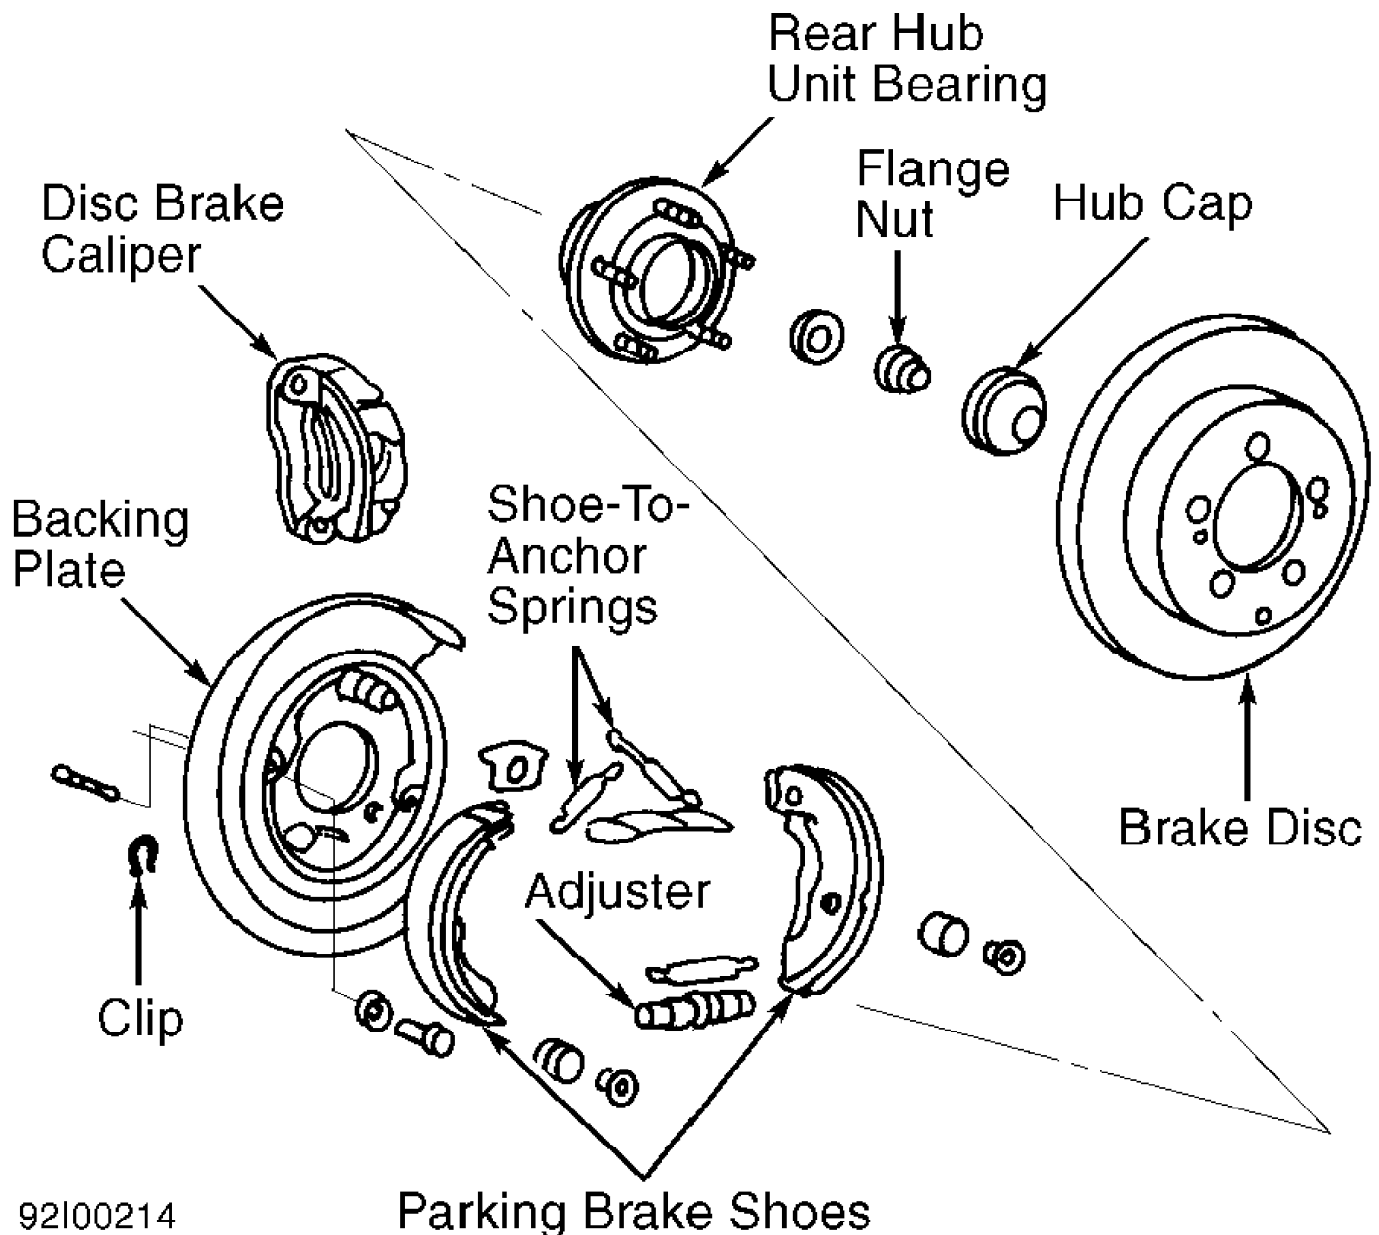

Fig. 4: Exploded View Of Parking Brake Assembly (FWD)
1) Raise and support vehicle. Remove rear wheel(s). Disconnect rear speed sensor. Remove rear disc brake calipers and rotors. On all models, remove hub cap, flange nut and washer. See Fig. 4.